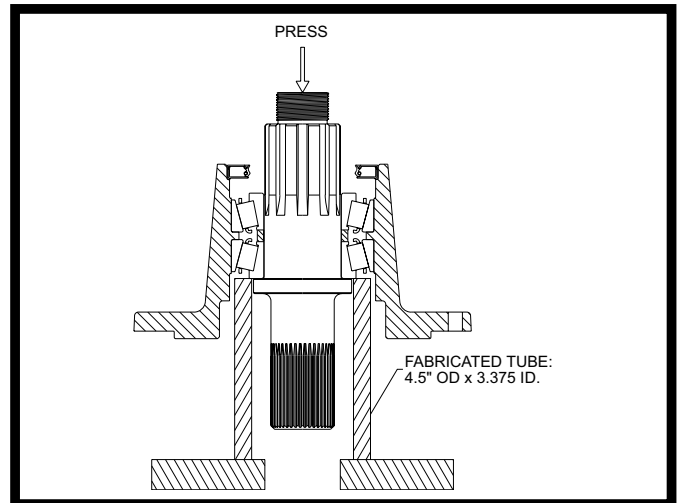

Fig 36
- Place the assembly in a press as depicted in Figure 36. Note that a fabricated spacer tube is required. Press the shaft through and remove the inner bearing cone assembly, the spacer washer, and the carrier assembly from the shaft.